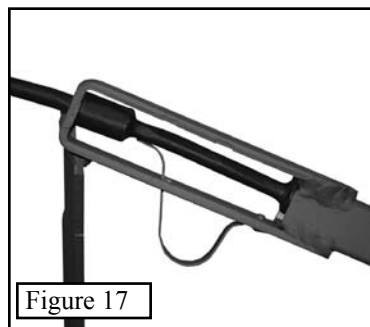

Figure 17
Step 4. Your cable bracket should now look like **Figure 17**.